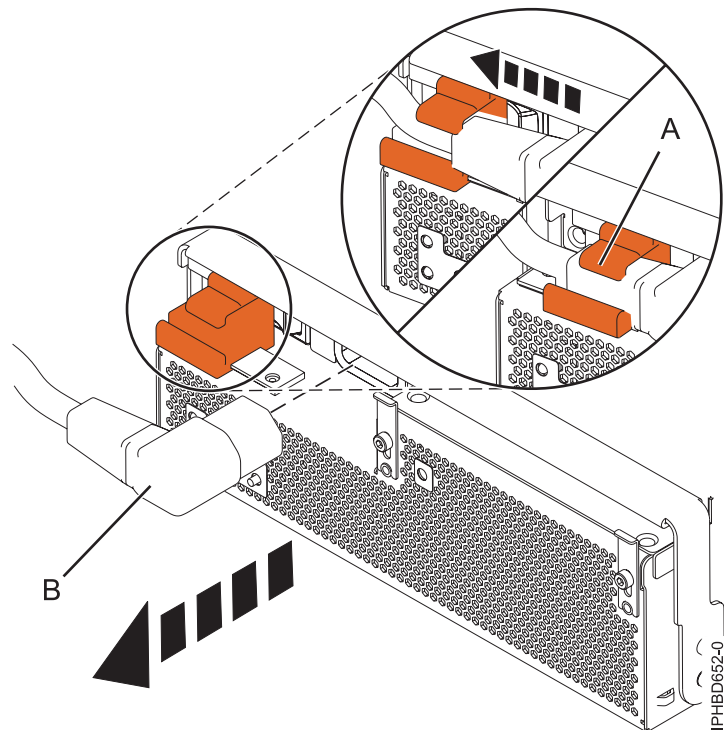

Figure 35. Disconnecting the power cable from the front of an expansion unit
6. For the power supply that you want to remove, slide the cable retention bracket to the open position (A), and then disconnect the power cable (B) as shown in Figure 35. By moving the bracket to the open position, you turn the power supply off.